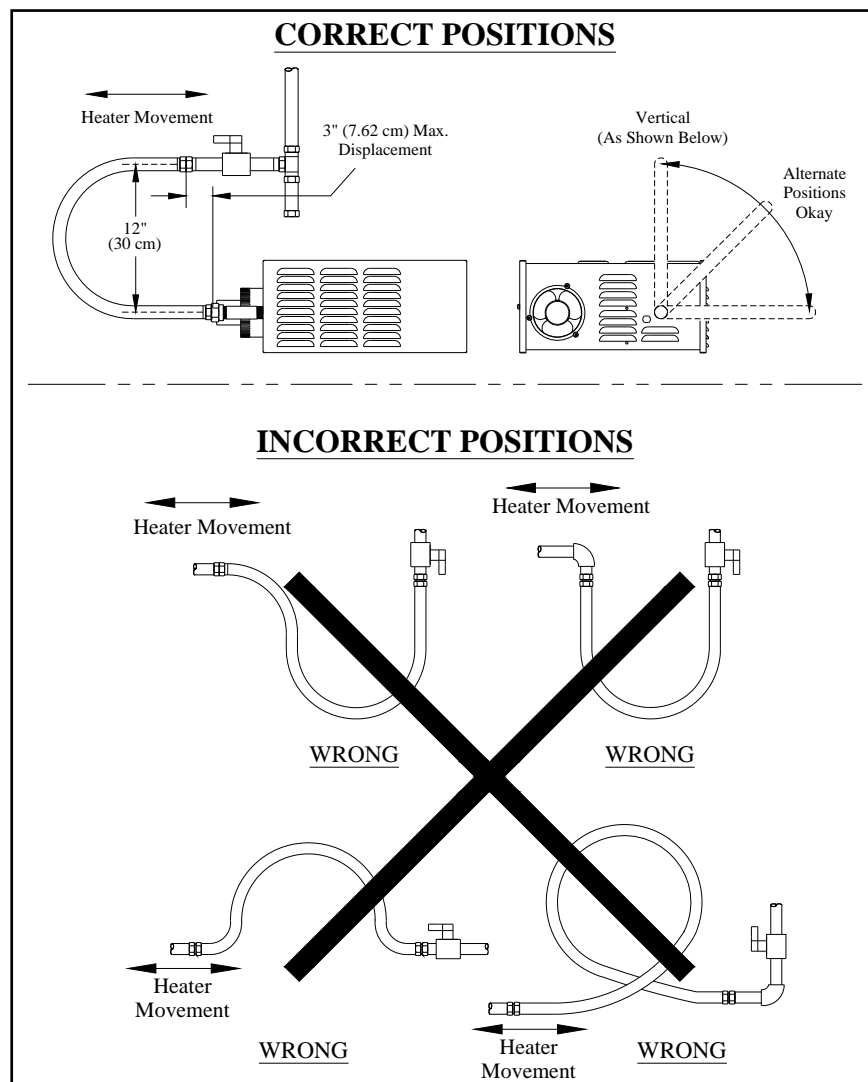

Figure 15: Flexible Gas Connection
- Flexible gas connectors of approved type must be installed as shown in Figure 15, in one plane, and without sharp bends, kinks or twists. A smooth loop of approximately 12" inches in diameter is best. Failure to install the gas connection in the approved manner will result in a hazardous and potentially deadly situation due to the movement of the heat exchanger and burner in the normal course of operation.